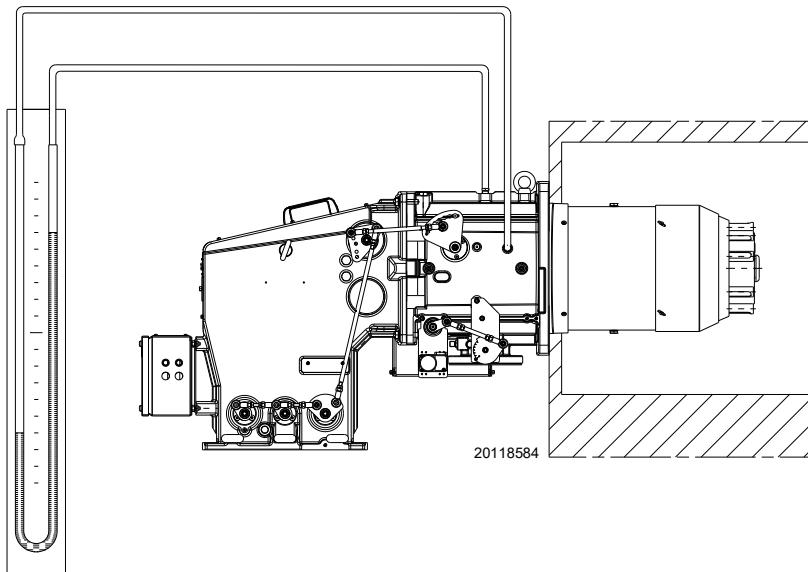

Fig. 24
- Fit a U-type pressure gauge or a differential pressure gauge (Fig. 24), with socket (+) on the gas pressure of the pipe coupling and (-) in the combustion chamber. The manometer readings are used to calculate MAX burner output.
The arrival of gas at the pipe coupling is evidenced by the U-shaped pressure gauge (Fig. 24, page 26) or else with the aid of a digital pressure gauge placed on the pressure test point under the coupling.